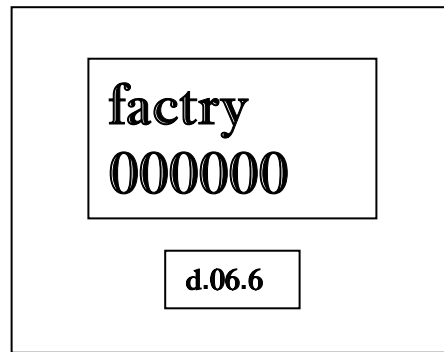

Figure 47
6.6 - Factory. The display in Figure 47 appears. The PPV display shows the dispenser is in Diagnostics Level 6.6.